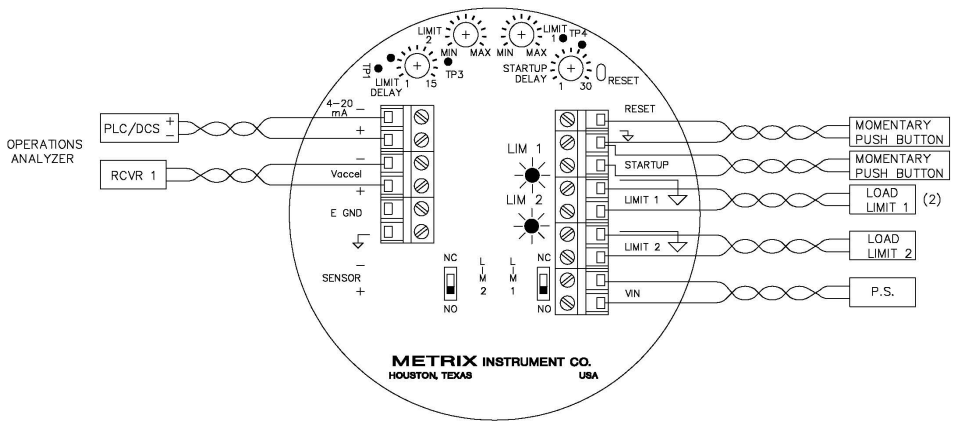

Figure 2: Wiring Diagram (LCD option not shown)
Refer to Figure 2 for wiring information. For incoming power and switch output(s) use approved wire of 14 AWG (1.5 mm²) or smaller.
- a. Set each SW6000 for N.C. (normally closed) operation. (See Figure 2)
The optional FET limit output(s) provide a low leakage switch for DC inputs to PLC's or other devices. Do not use on an AC supply. Observe proper polarity when wiring the FET(s) (See figure 2). Damage to the FET(s) will result from improper wiring. As with the triacs, the FET(s) can be set for N.C. or N.O. operation by positioning the Limit 1/Limit 2 switches accordingly.
If remote reset capability is desired, connect Reset terminals (see Figure 2) to a remotely located, momentary N.O. pushbutton switch. Observe hazardous area requirements if applicable.
If the optional 4-20 mA output is installed, it may be connected to a remote receiver, as shown on the wiring diagram (see Figure 2). This output is a current source (at 15VDC) and requires no external loop power supply. Full scale current (20 mA) corresponds to the full scale vibration response marked on the face plate. A current of 4.0 mA represents a zero vibration condition. The maximum load resistance is 600 ohms. In high electrical noise locations a shielded, twisted pair cable is recommended.
The Limit Setting adjustment allows the user to set the vibration levels at which a limit will trip. The adjustment has a range of -10% to 110% of the full scale vibration level. A midscale adjustment corresponds to a 50% vibration level limit. The limit setting can be set precisely by measuring the limit voltage with a DVM. The test points for measuring this voltage are labeled TP3 (Limit 2), TP4 (limit 1) and COM (common) on Figure 2. The DC voltage represents a percentage of full scale. For example, .46 VDC would represent a limit setting of 46% of full scale. Turning the adjustment to its minimum value (CCW) allows the user to test the trip circuitry, including LED's, time delays and triac (FET) switches.